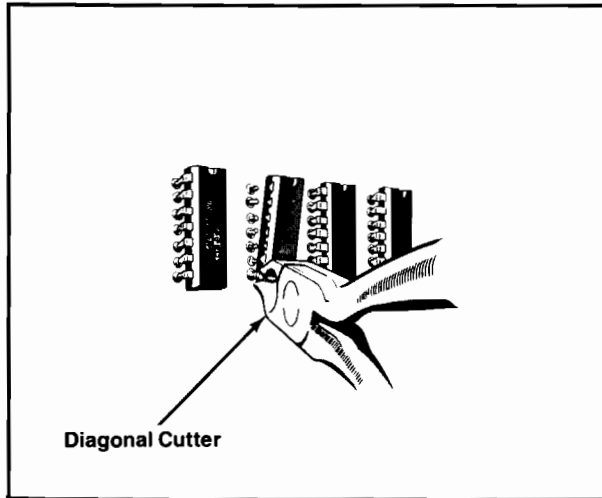

Figure 4-1 Removing ICs (Cut Pin Method)
The easiest and safest method for removing soldered-in integrated circuits (IC) from a printed-circuit board (PCB) is to cut off each pin as close to the IC case as possible with a tip dyke or diagonal cutter as shown in Figure 4-1.